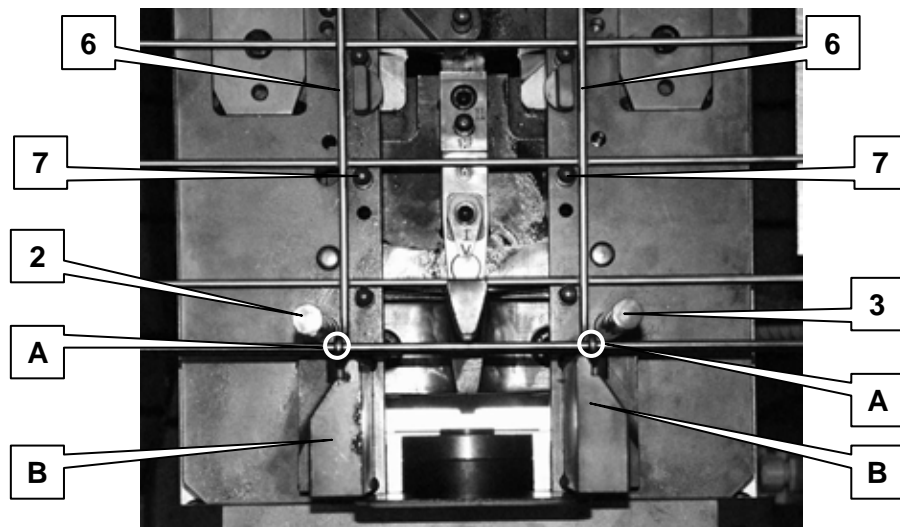

Fig. 4.67 – Gangway positioning
5. Check that all transversal wires **6** are out from plugs **7** (fig. 4.67);
☞ Check that the wires **A** are out of lateral cursors **B** and inside the pivots **2** and **3** (fig. 4.67).